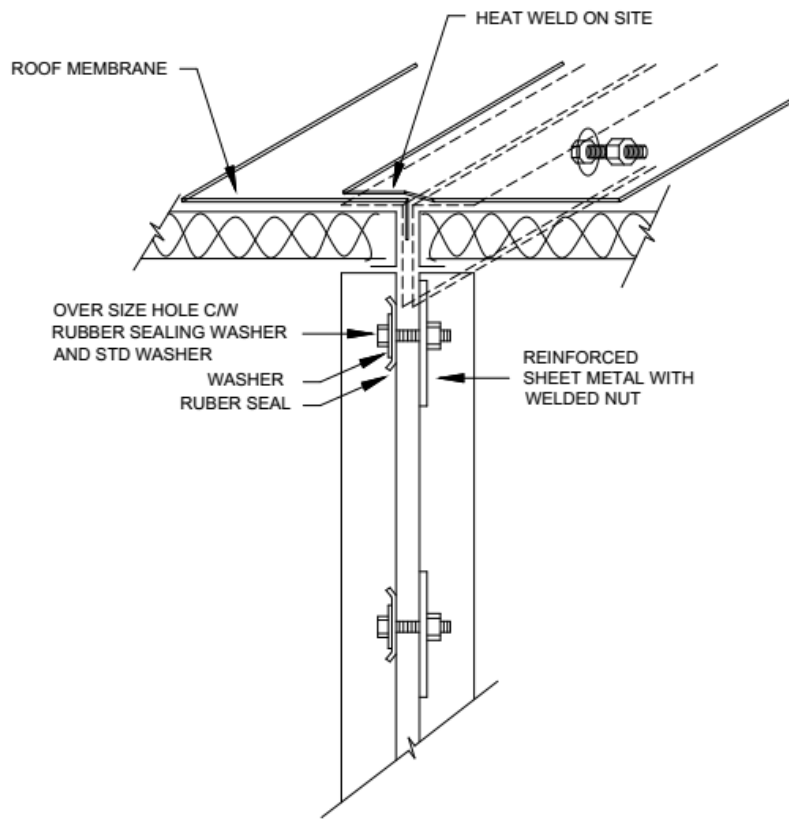

FIGURE 5
1. Overlap roof membrane from the two sections (see figure 5). Seam overlaps should be a minimum of 6" wide. Clean all membrane surfaces that will be welded and allow to dry. There should be no adhesives present within overlap areas.